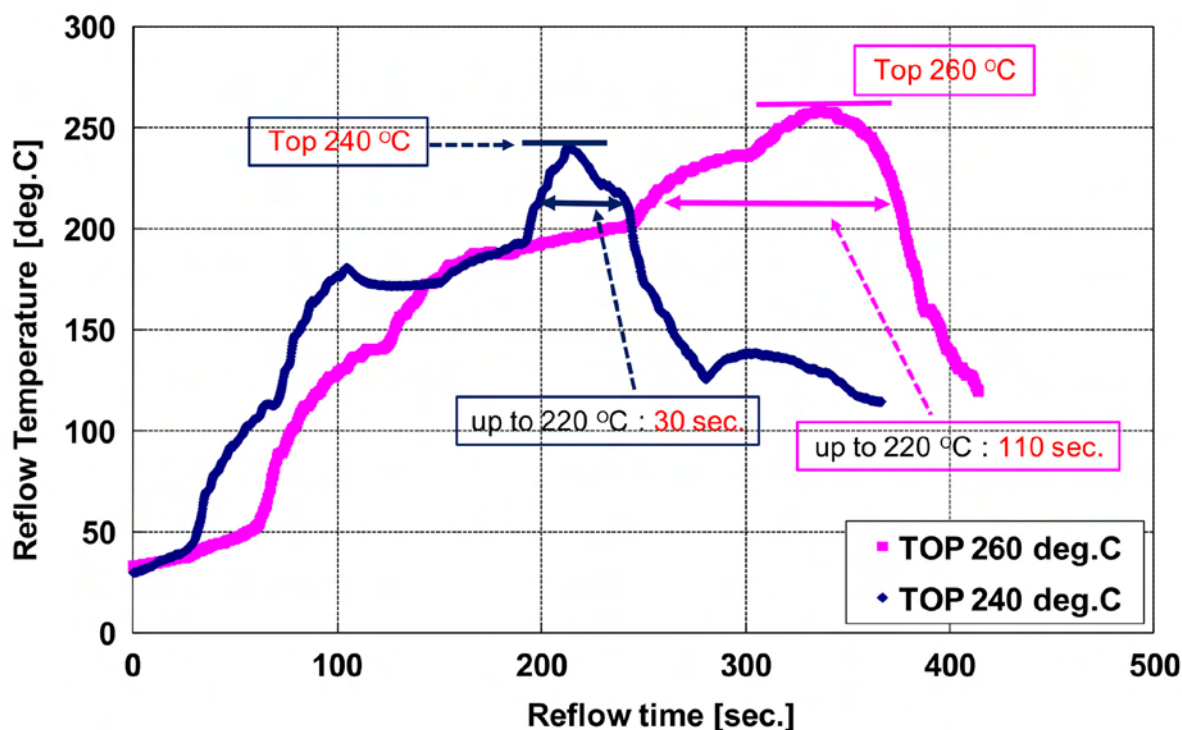

Figure 1: Reflow profiles.
240°C or 260°C was applied for mounting the solder ball as shown in Figure 1. SJR was measured by ball pull (BP) test as shown in Table 2. The cross-section image of the deposits was observed by FIB-SEM. Electroless Ni was plated to protect Au deposit at the top surface before FIB. And the cross-section image of inter-metallic compounds (IMC) after mounting the solder ball was observed by FE-SEM after polishing by cross section polisher.